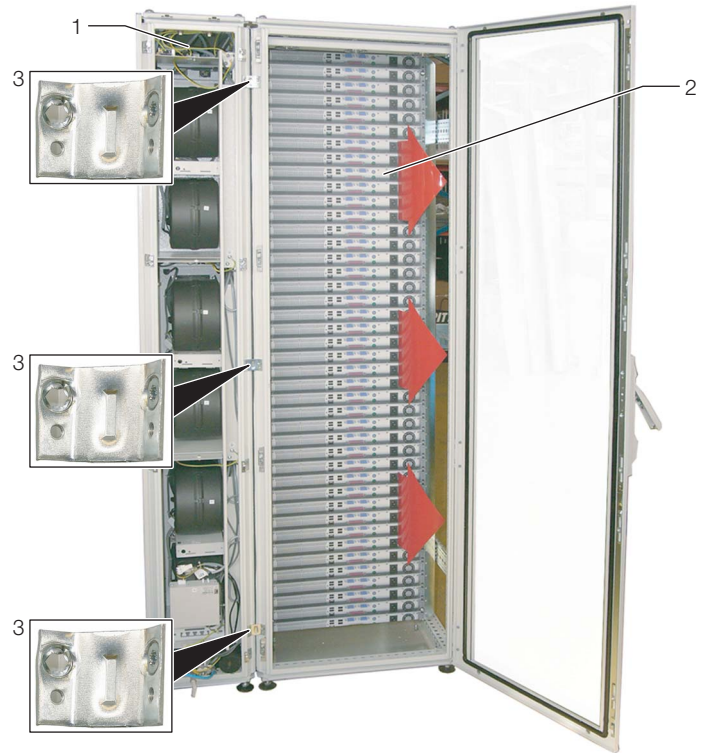

Fig. 28: Liquid Cooling Package on a server enclosure (rear)
- Using assembly screws, fasten three baying connectors each (Fig. 28, Pos. 3) onto the intended attachment points in the mounting rails on the front and rear sides of the Liquid Cooling Package (Fig. 28, Pos. 1).
- Using the corresponding assembly screws, fasten the baying connectors (Fig. 28, Pos. 3) onto the intended attachment points in the mounting rails on the front and rear sides of the server enclosure (Fig. 28, Pos. 2). As needed, press the Liquid Cooling Package lightly against the server enclosure in order to bring the baying connectors into alignment with the attachment points.